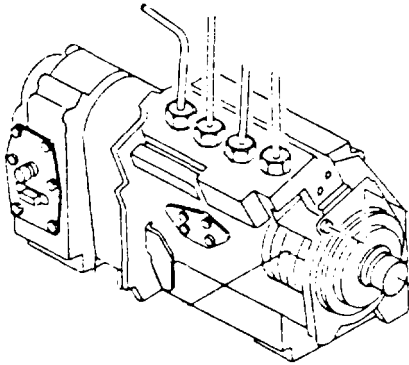

Figure 3-1.
Step 1. Check for fuel in housing for the fuel injection pumps (Figure 3-1).